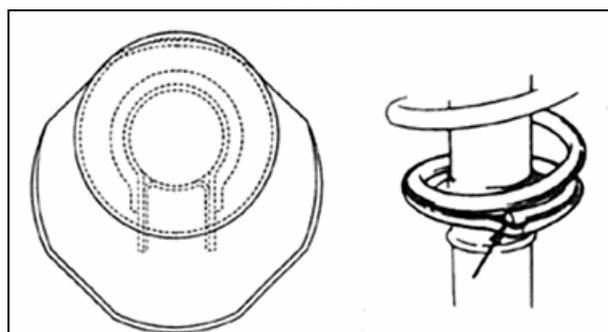

FIG.14-16
- (1) Compress coil spring to approx.230mm high.
- (2) Align the end of coil spring with the groove in the lower spring seat (FIG.14-16).
2. Installing lower spring seat and knuckle bracket according to FIG.14-16.